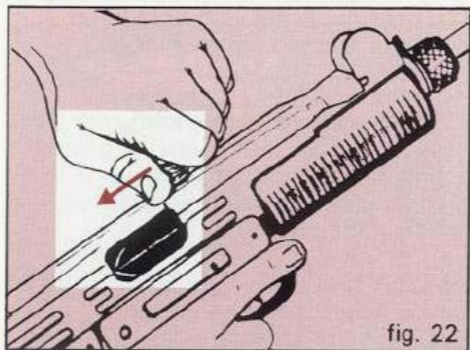

fig. 22
4. While fully depressing the safety grip, pull cocking knob all the way back and release knob instantly to allow bolt to snap forward. (fig. 22).